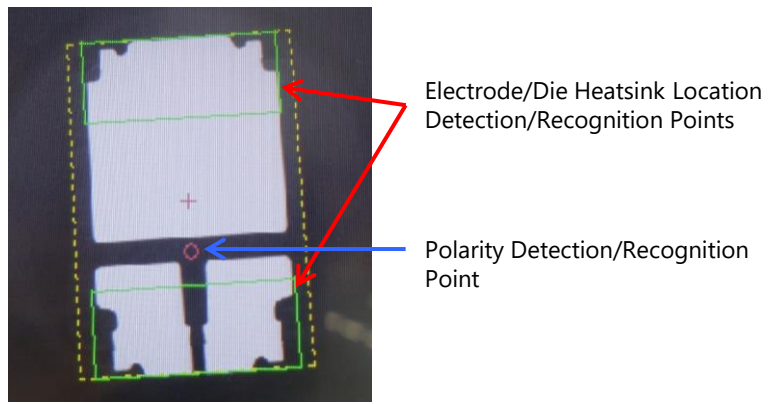

Figure 8. Example of Reference Point to Detect, Recognize, or Locate the Electrodes/Die Heatsink
3. If an automatic polarity detector is used for the LEDs, set up the imaging device to detect the empty space between the die heatsink and electrodes (i.e. Polarity Detection/Recognition Point in Figure 8 to the left). In the example in Figure 8, the equipment measures the brightness of the empty space against the threshold to locate the electrodes and/or determine the polarity.